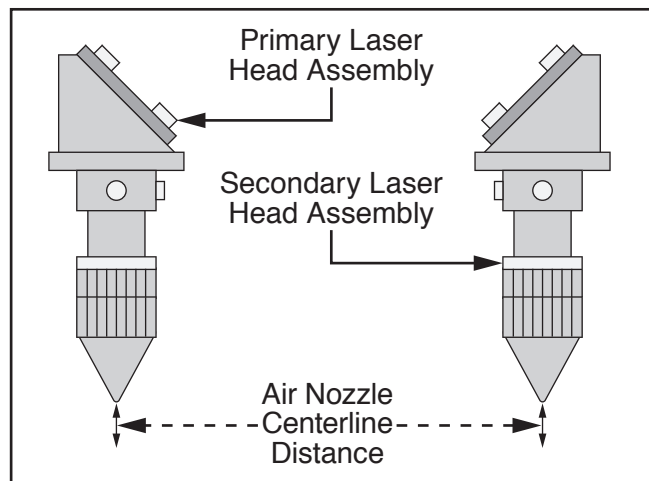

Figure 51. Example of measuring distance between air nozzle centerlines.
3. Measure distance between primary and secondary laser head assembly air nozzle centerlines (see **Figure 51**).